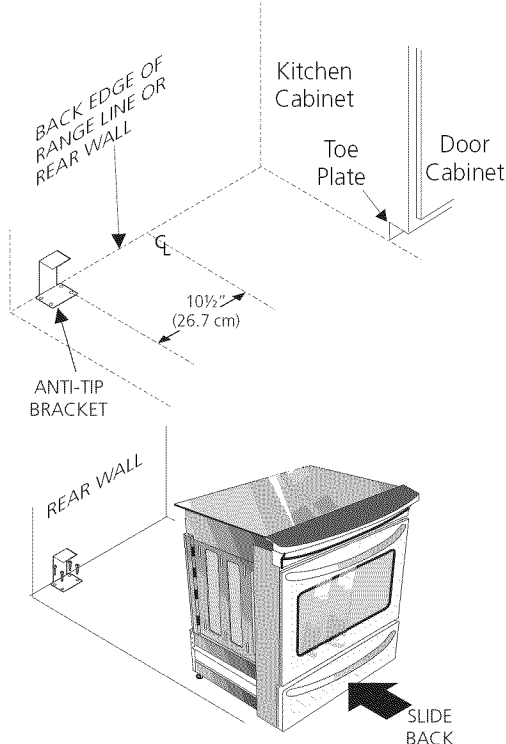

Figure 11
2. Unfold paper template and place it flat on the floor with the front and side edges positioned exactly on the cabinet line you just drew before. (Use the diagram below to locate brackets if template is not available (Figure 11)).